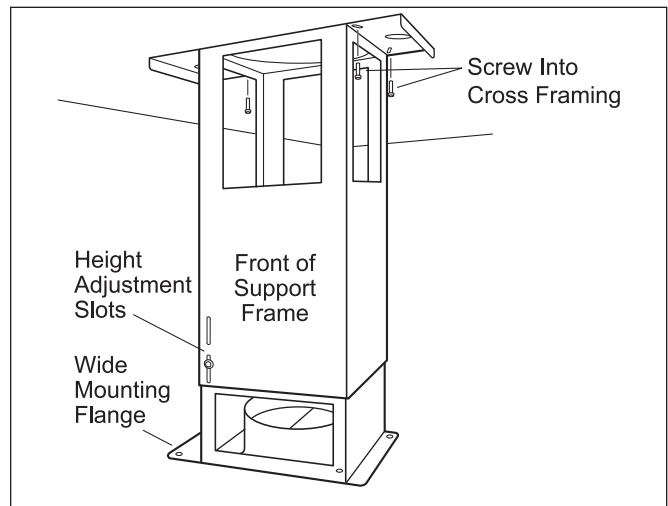

Figure 2-17 Support Frame
4. Secure the upper half of the support frame to the joists and cross framing with four screws provided with your hood. Make sure that the screws are driven into the center of the joists and framing for maximum strength. (See Figure 2-17)
5. Adjust the overall height of the support frame. Loosen and retighten the screws in the height adjustment slots as necessary. (See Figure 2-17)